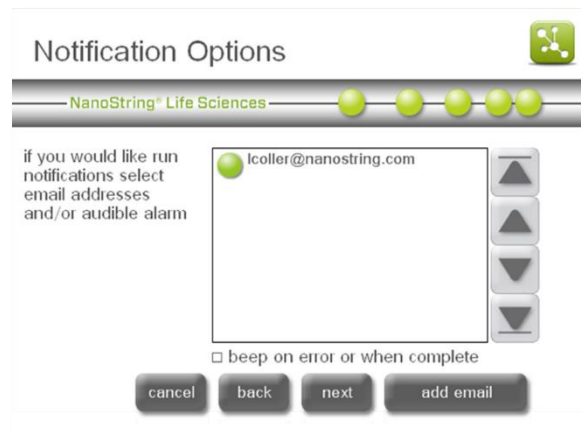

Figure 133: The 'Notification Options' screen
4. The 'Notification Options' screen will appear (**Figure 133**).